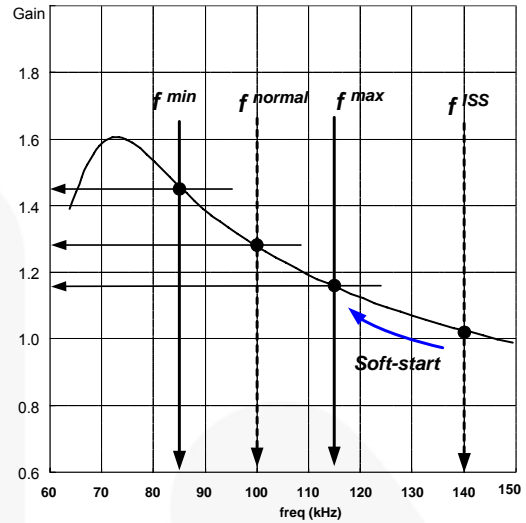
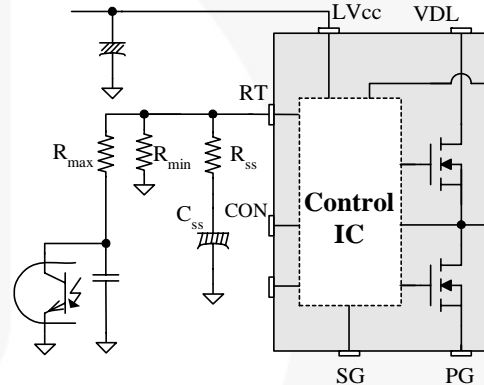

Figure 18. Resonant Converter Typical Gain Curve
Figure 19. Frequency Control Circuit
3. Frequency Setting: Figure 18 shows the typical voltage gain curve of a resonant converter, where the gain is inversely proportional to the switching frequency. The output voltage can be regulated by modulating the switching frequency. Figure 19 shows the typical circuit configuration for R_T pin, where the opto-coupler transistor is connected to the R_T pin to modulate the switching frequency.
To prevent excessive inrush current and overshoot of output voltage during start-up, increase the voltage gain of the resonant converter progressively. Since the voltage gain of the resonant converter is inversely proportional to the switching frequency, the soft-start is implemented by sweeping down the switching frequency from an initial high frequency (f^{ISS}) until the output voltage is established. The soft-start circuit is made by connecting R-C series network on the R_T pin, as shown in Figure 19. FSFR-series also has an internal soft-start for 3ms to reduce the current overshoot during the initial